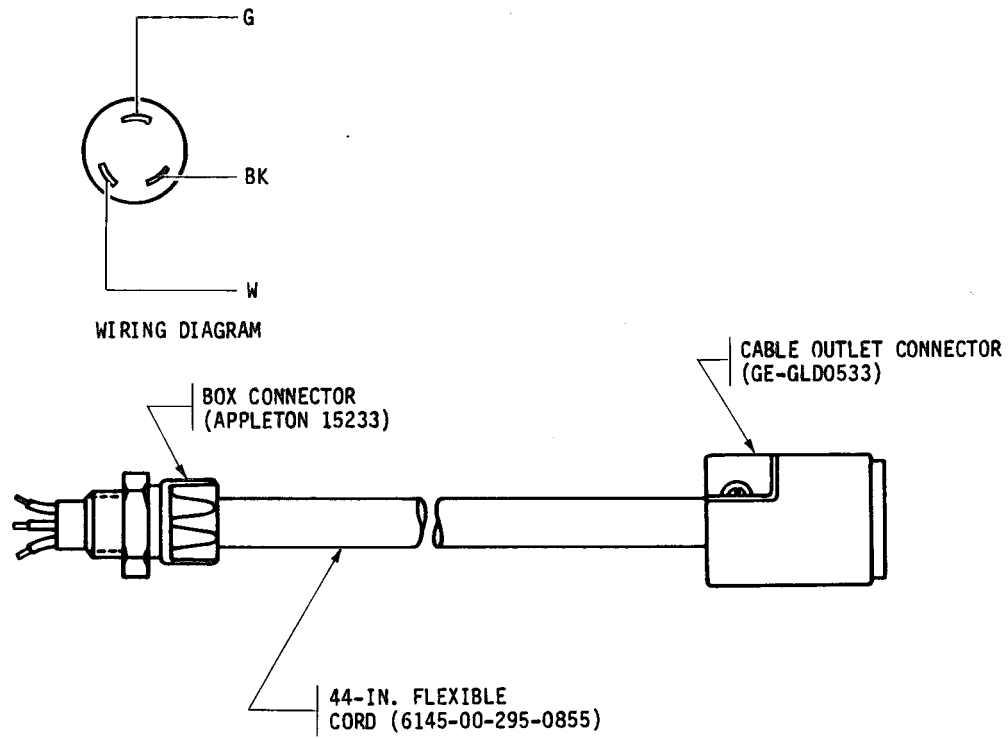

Figure 25. Power cable assembly, 11021163, unit 2, M35A2.
(8) Fabricate four power cable assemblies (11021163, 11021164, 11021165, and 11021166) using approximately 14 feet of flexible cord (6145-00-295-0855). Install four box connectors (Appleton 15233). Refer to figures 25 thru 28 for individual power cable assembly construction, and install in accordance with figures 21 thru 24.